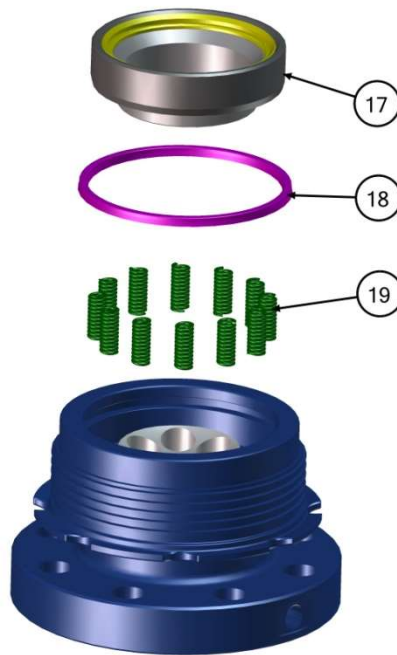

FIGURE 5
- 8) Remove the seat carrier assembly (17) (**FIGURE 5**) from the tailpiece.
- 9) Remove the seal (18) from the tailpiece or the seat depending on the model.
- 10) Remove the compression springs (19).